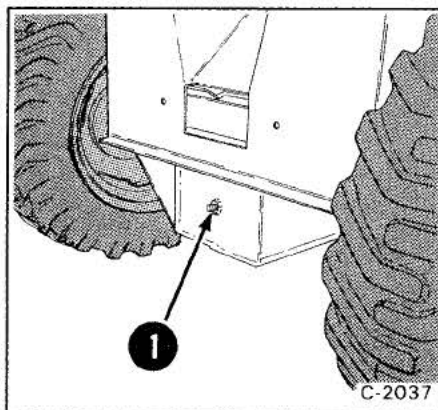

Fig. 69 Chaincase Plug
2. Remove the plug at the front of the transmission housing (Fig. 69, Item 1).